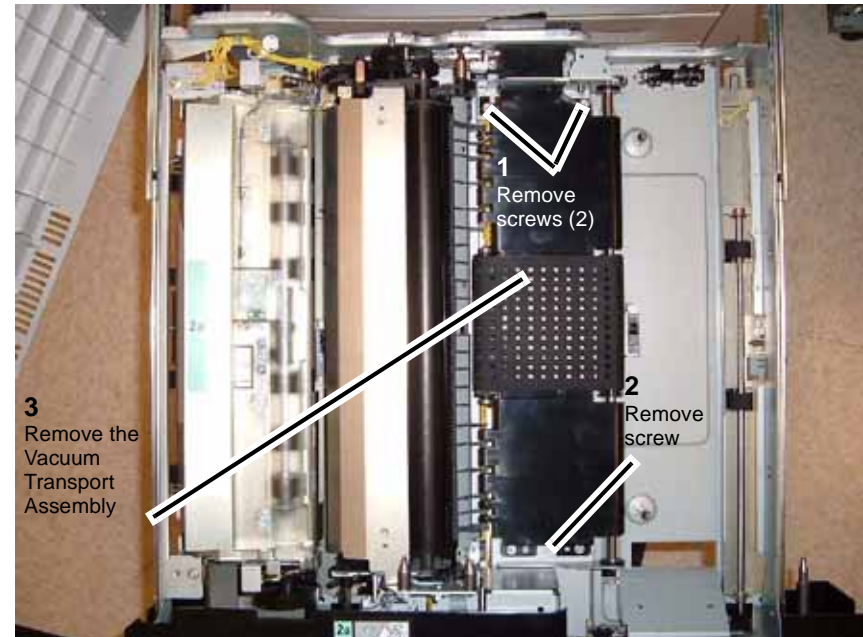

Figure 1 Removing the V-Transport
2. Remove the Vacuum Transport Assembly (Figure 1).